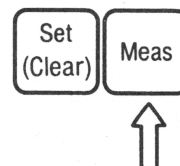

Figure 14. **[Meas]** Temperature Key.
12. During operation to verify set-temperature, press **[Meas]** temperature key (Figure 14). Read temperature in temperature display.
5. Press **[Meas]** temperature key (Figure 14) to learn when oven reaches set-temperature.